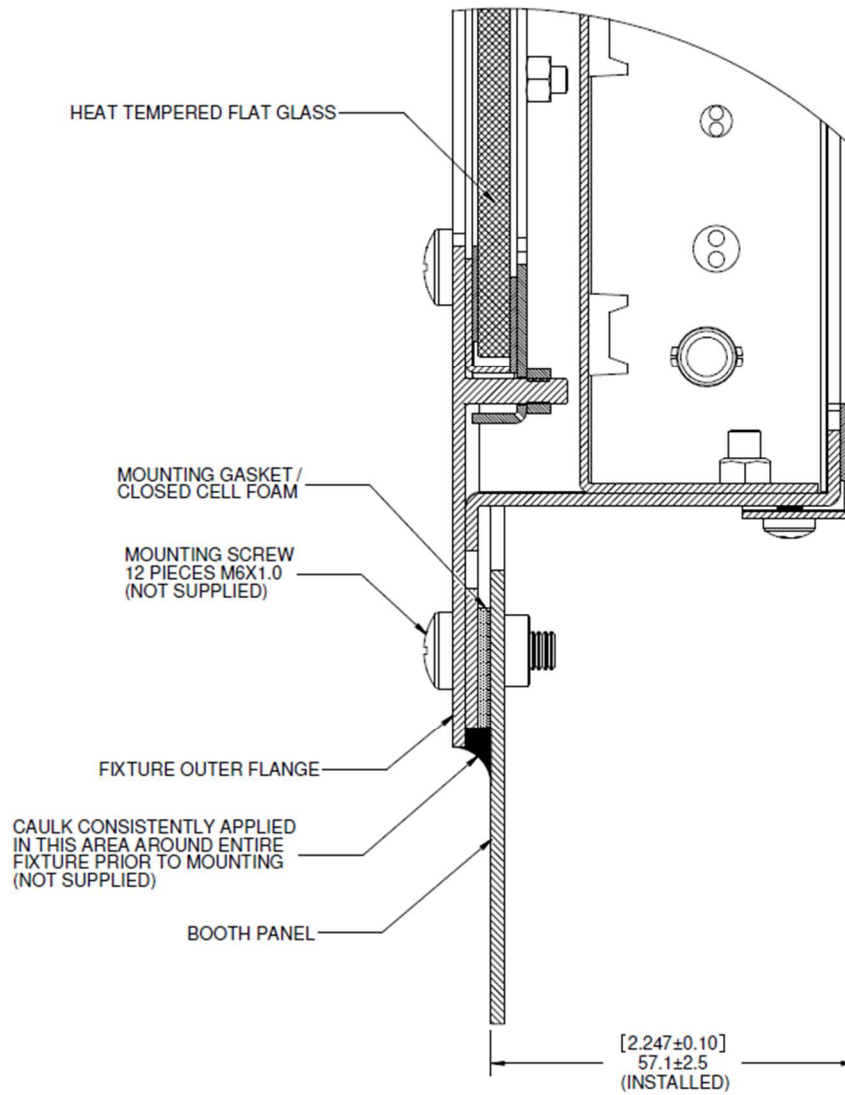

Figure 4. Mounting detail of fixture ULF839VW to booth panel
7. Ensure caulk and seal the flange parameter to prevent leakage. Refer to Figure 4. Installation of light fixture onto booth panel is now complete.